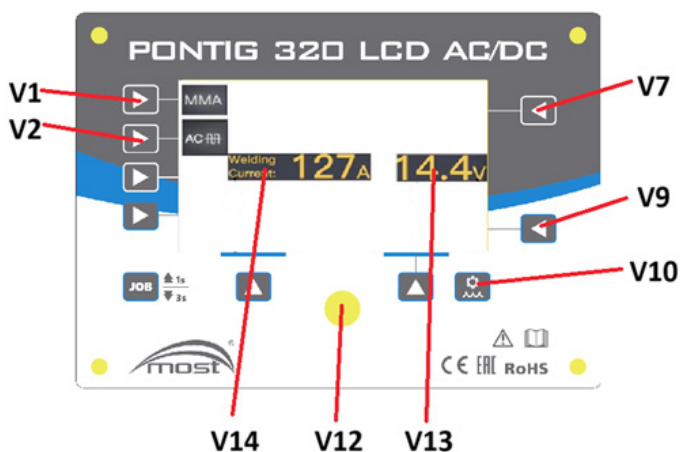

Figure 12: Welding parameters for the MMA method.
4. Use the **V1** button as shown in Figure 12 to select the MMA method.